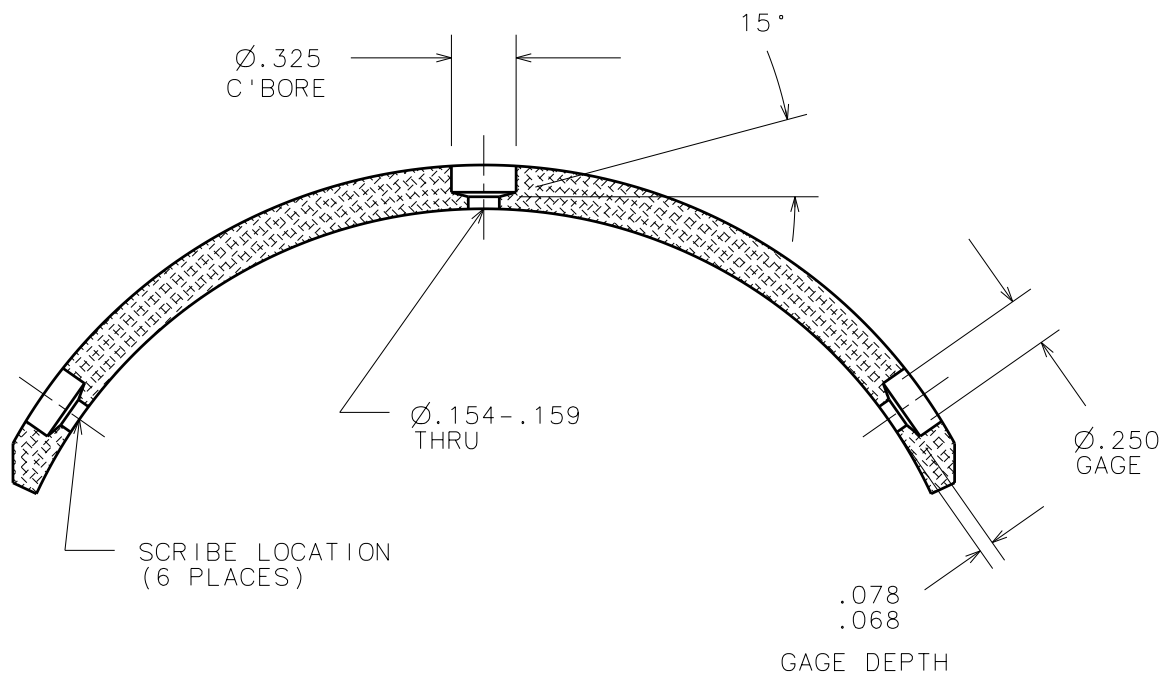

Figure 205 - Installation of 066-00504 Lining to Brake Shoe
(5) Installation of 066-00504 Lining to Brake Shoe
- d Drill and counterbore lining as shown in Figure 205 (6 places).